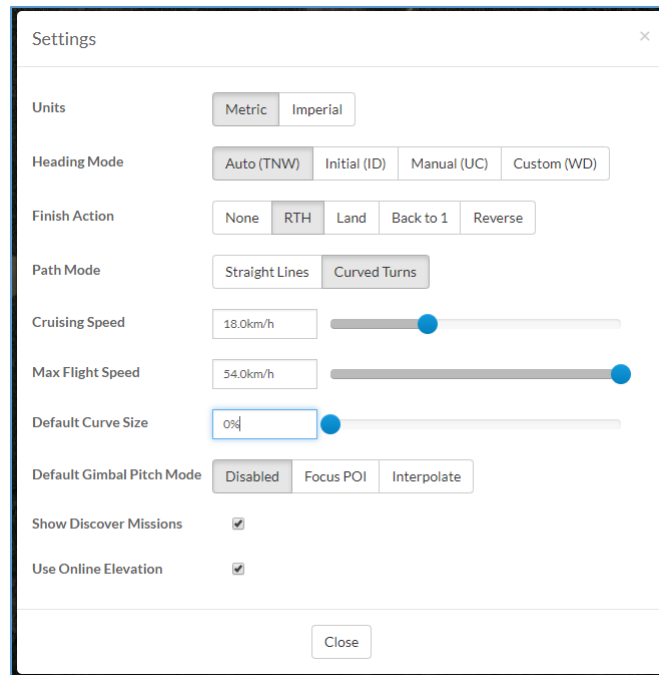

Figure 23 - Settings
- 29. Click “Settings” to set our default settings. Use the settings as shown in Figure 23 then close.